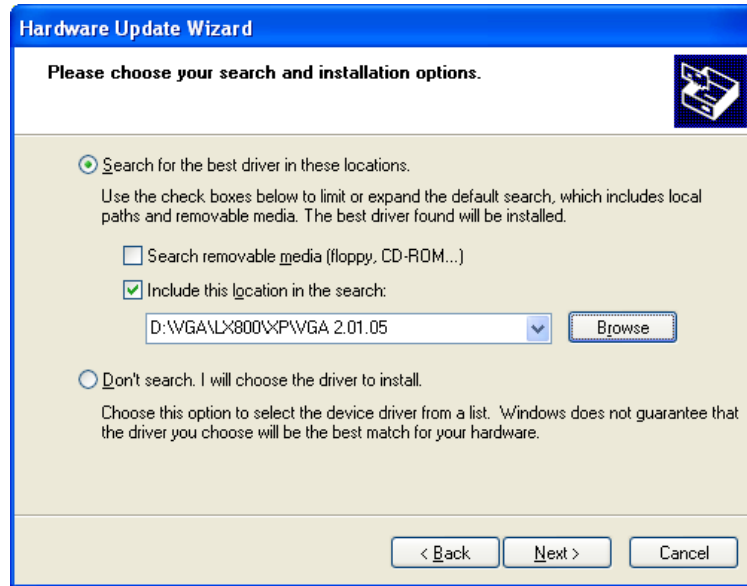

Figure 7-12: Search Options Window
Step 16: The following window (Figure 7-12) appears.